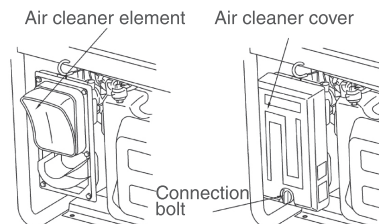

Fig. 1
3.3.1 Remove the air cleaner housing (Fig. 1)